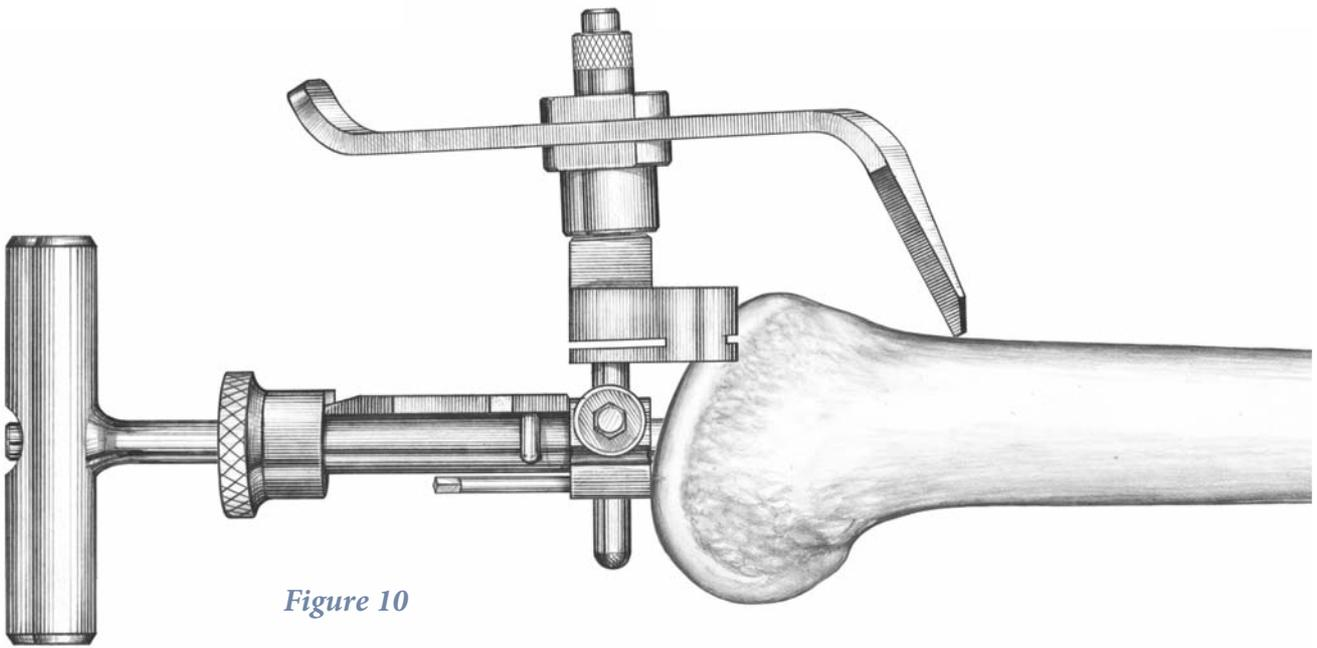

Figure 10
- ▶ The length of the stylus may be easily adjusted by sliding it to the appropriate point. The tip of the stylus indicates the exit point of the sawblade when the final femoral resections are made. Adjusting the tip of the stylus to reference off the high point of the anterior lateral cortex will result in a conservative anterior cut, eliminating the risk of notching the cortex (**Figure 10**).